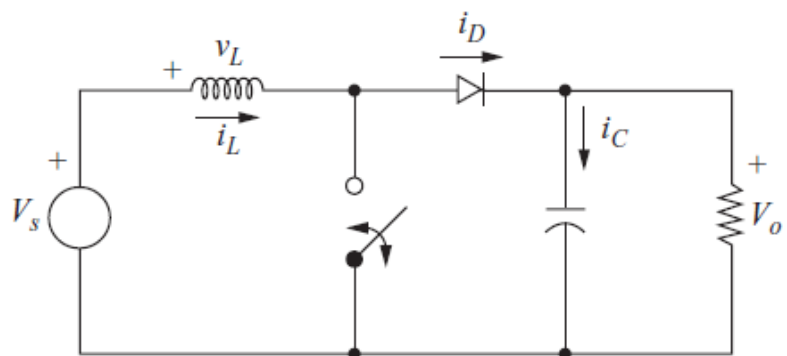

Figure Q 2A
- 2B. Draw the waveform for current in diode and capacitor for the circuit shown in figure Q 2A. Assume inductor current is continuous. Derive an expression for $\Delta V_0/V_0$ (ripple).